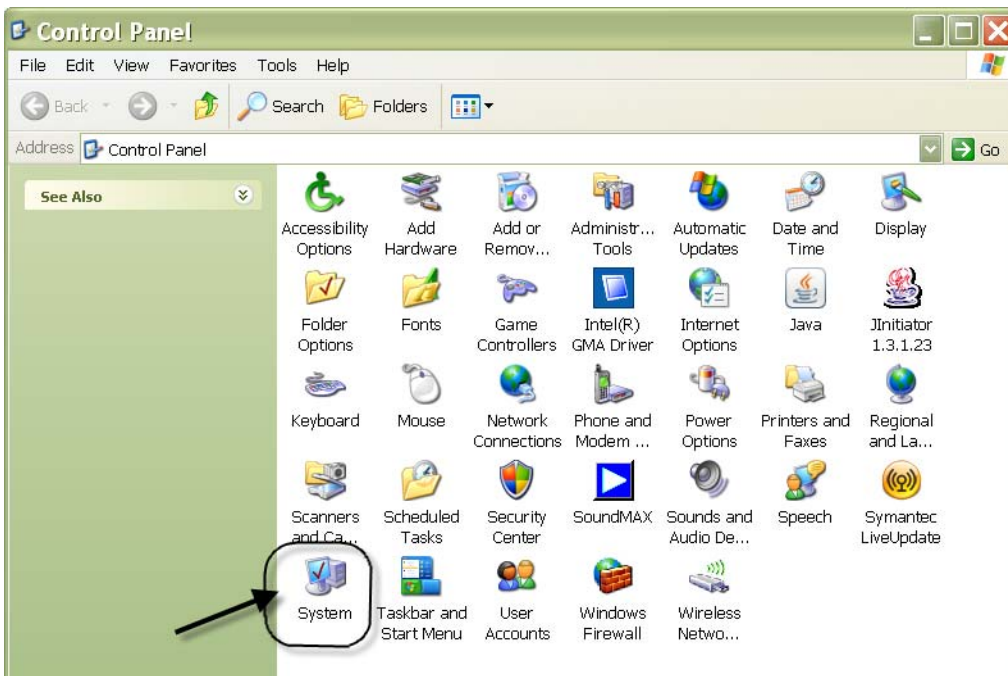

FIG. 215
2. The Control Panel is shown in FIG. 215.